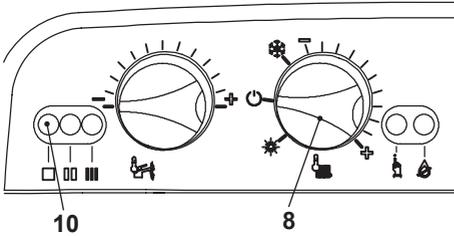

Fig. 3.3
**If the left appliance operation light 10 (Fig. 3.3) flashes very quickly the boiler is detecting a fault.**